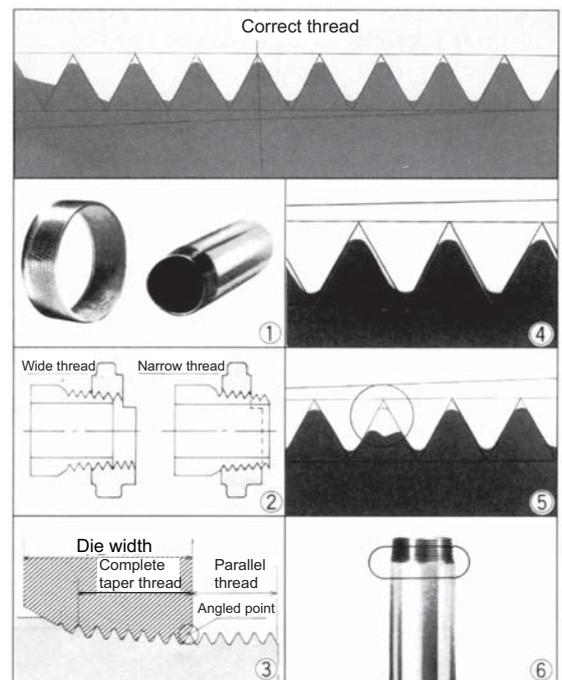

Fig. 58
- Irregular shaped threads (Fig. 58 - 1)
- The diameter of the thread is too small or too large (Fig. 58 - 2)
- Distorted threads (in the case of manual die heads) (Fig. 58 - 3)
- Threads are too small (Fig. 58 - 4)
- The thread is chipped (Fig. 58 - 5)
- Thread with uneven thickness (Fig. 58 - 6)